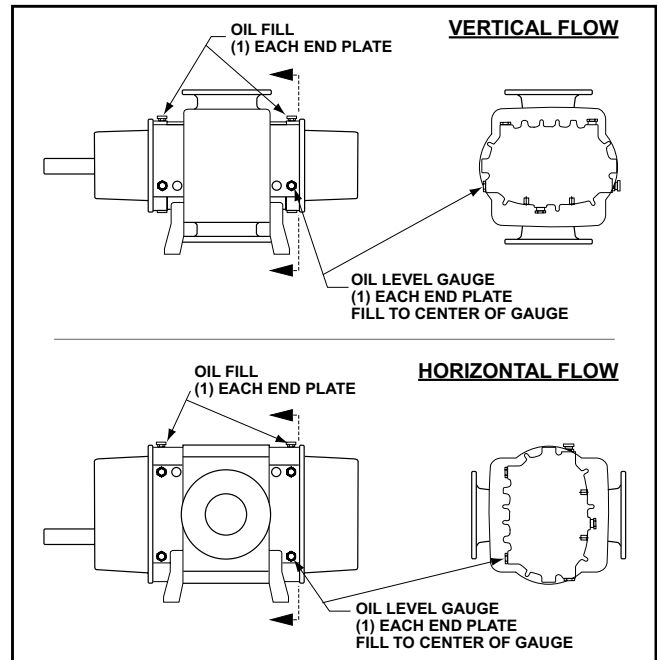

Figure 6A
Note: Figure 6A and 6B show water connections on the end plate. Each water connection is 1" NPT. Each end plate is drilled and tapped with (5) water connections. To locate and connect to the proper connections, each water connection has a 1" NPT plug with a 5/8" Allen head. Only two (2) plugs in each end plate are to be removed when connecting water to the end plate.
2. Pour oil through fill hole until oil appears in sight glass. Slowly bring oil up to center of glass. Repeat for both end plates. Each oil sump must be filled independently. See Figure 6A.